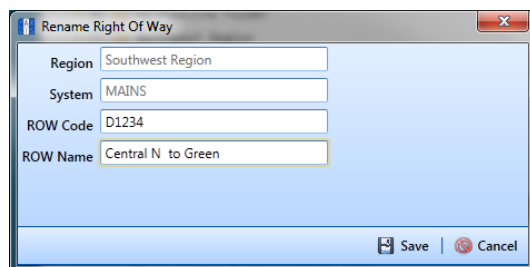

Figure 3-7. Rename Pipeline
- a Click **Rename** to open the *Rename* dialog box (Figure 3-7). Right-clicking the selected pipeline and selecting *Rename* in the shortcut menu also opens the dialog box.